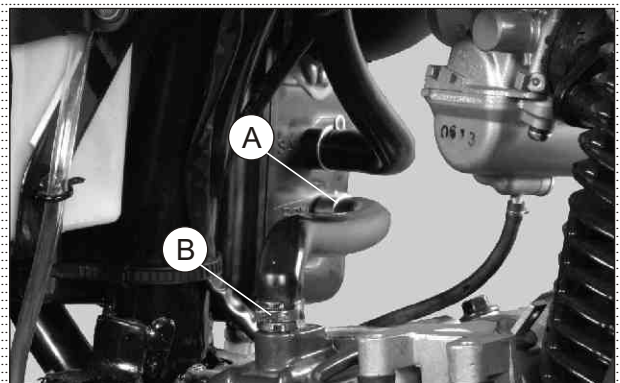

Fig. 3.29
- Dislocate hose clip (A) & (B) from the tube breather and take out tube breather. (Fig. 3.29)